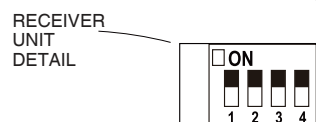

Figure 15
2. To set the receiver unit code, slide code switches to the same positions as set on your transmitter (Figure 15).